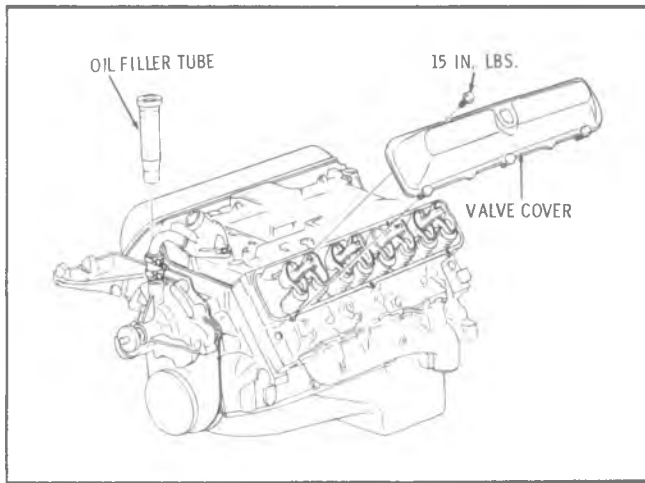

Fig. E-22—Valve Rocker Cover
2. Install valve cover screws so they are fully seated and not stripped. Install any mounting brackets which were removed. (Fig. E-22)